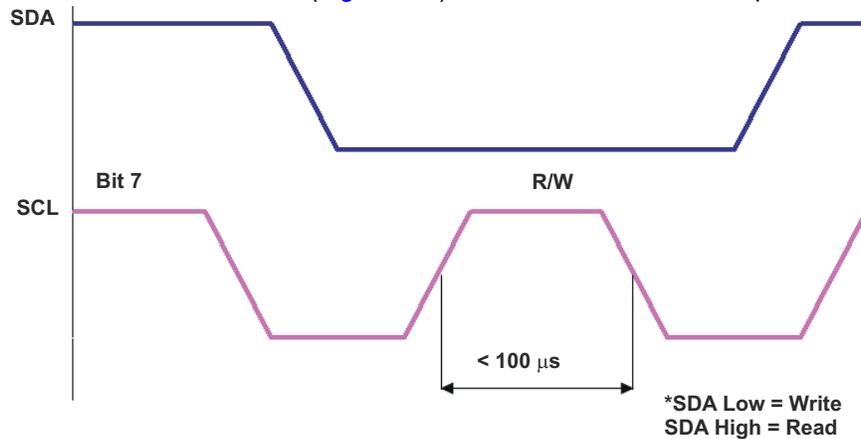

Figure 5-5. Read/Write Bit Requirements
- Read/write bit of slave address command (Figure 5-5): SCL must fall within 100 μ s of SCL rising.